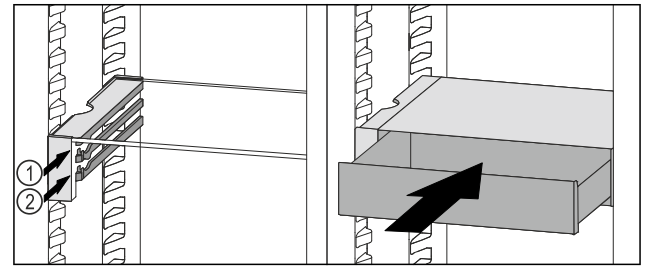

Fig. 96
- Place the VarioSafe drawer behind the stoppers on desired rib *Fig. 96 (1)* or *Fig. 96 (2)*.